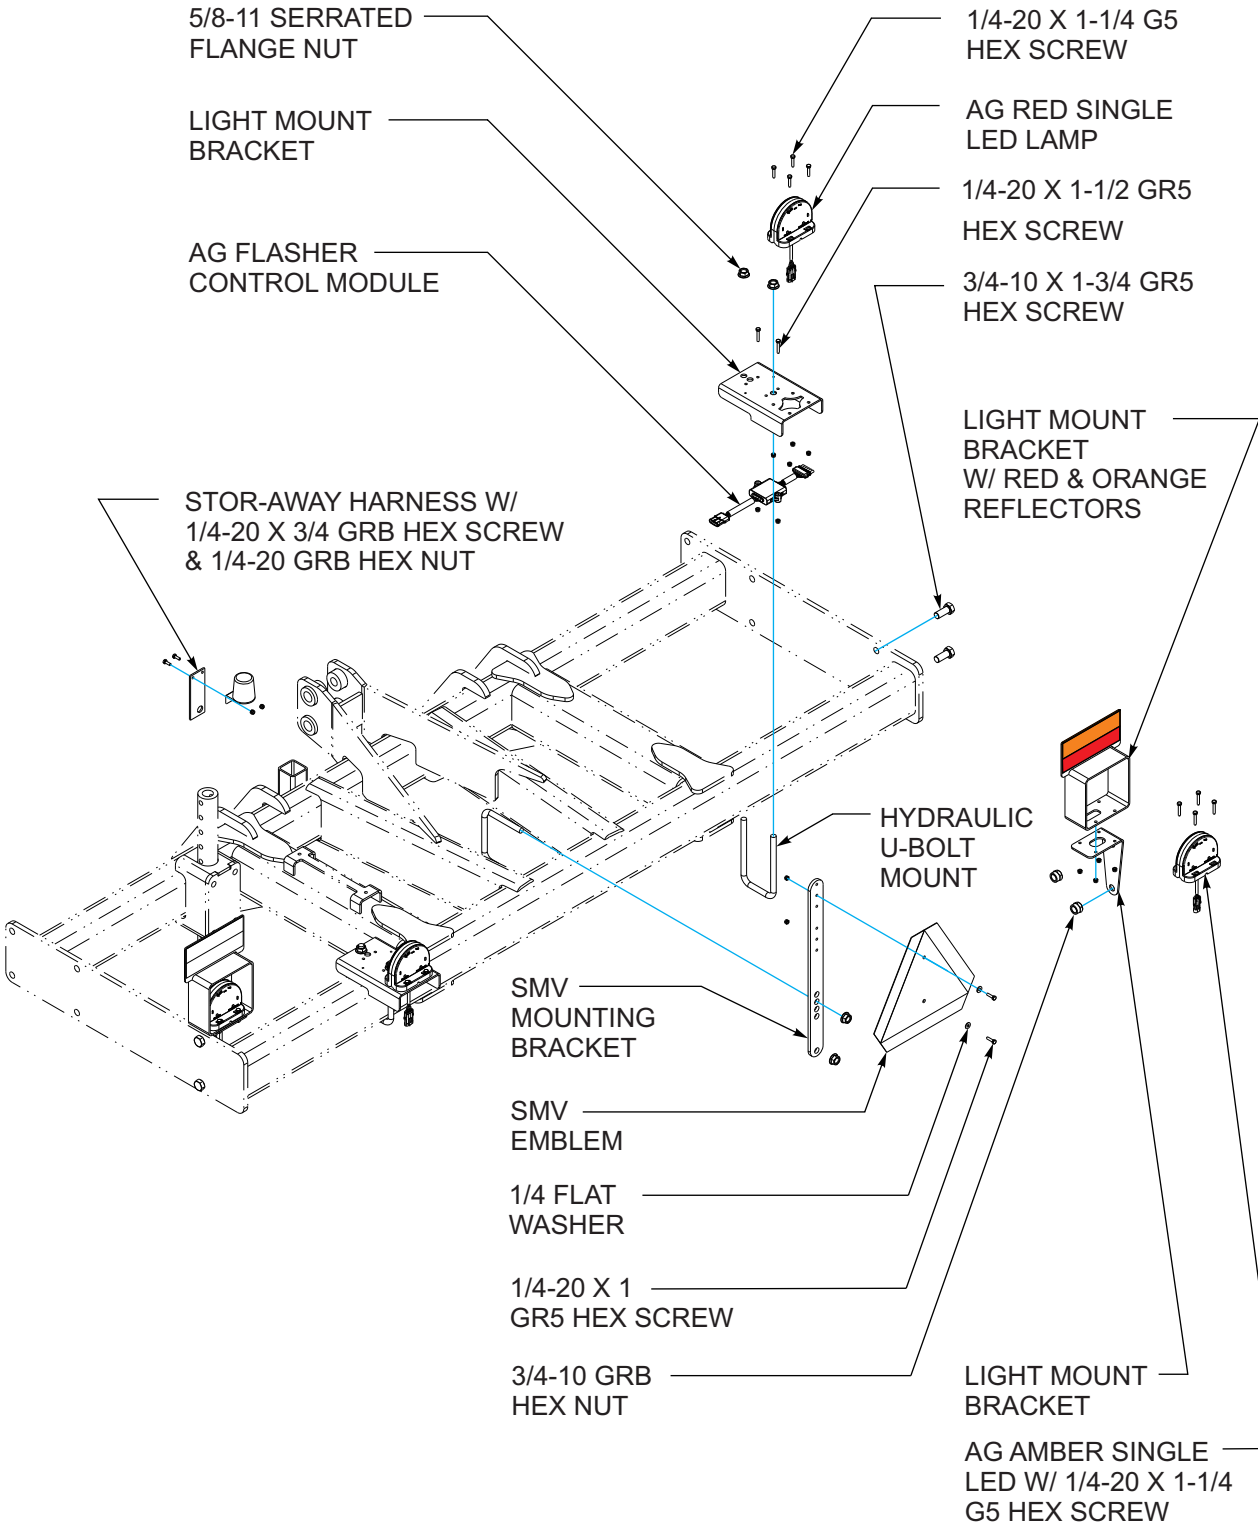

Figure 3-11: LED Light and SMV Bracket Installation - 3, 4, & 5 Standard Frame
1. Attach left and right light brackets with reflectors to frame using warning light bar, 1/2-13 x 7-1/2 hex head cap screws, and hex lock nuts **(See Figures 3-11 thru 3-14.)**